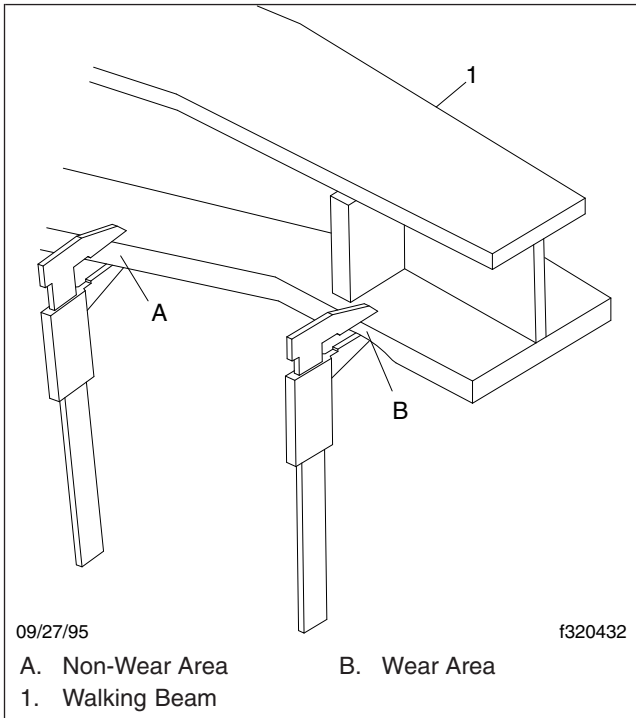

Fig. 5, Walking Beam End Wear Thickness
5. Manipulate the walking beam so that a micrometer, vernier, or dial caliper can be used to determine the wear area thickness on the bottom face. See Fig. 5. Measurements should be taken a minimum of 1/2 inch from the beam flange edges to eliminate any edge wear that may have occurred. Subtract the wear area thickness (see Fig. 5, Ref. B) from the thickness at the non-wear area (see Fig. 5, Ref. A) to determine the amount of wear.